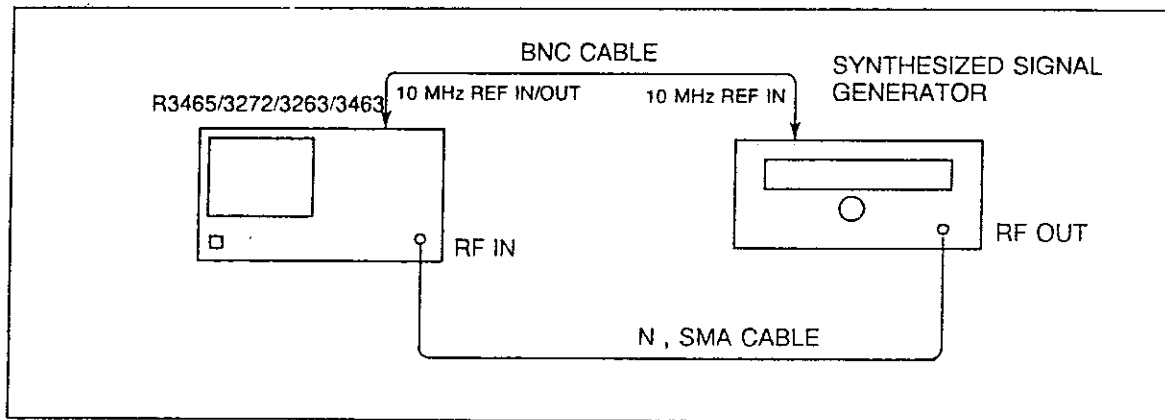

Figure 1-3 Noise Sidebands Test Setup
- (1) Connect the equipment as shown in Figure 1-3.
- (2) Set the Signal Generator (SG2) controls as follows: